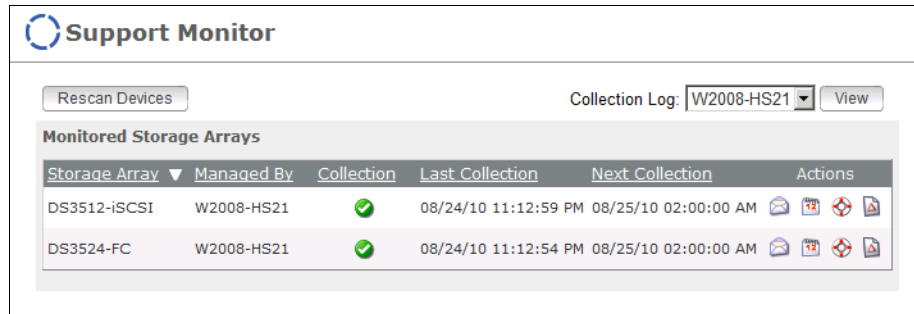

Figure 14-22 Support Monitor
- Click **Monitors** → **Support Monitor** in the navigation bar to display the Support Monitor window as shown in Figure 14-22.